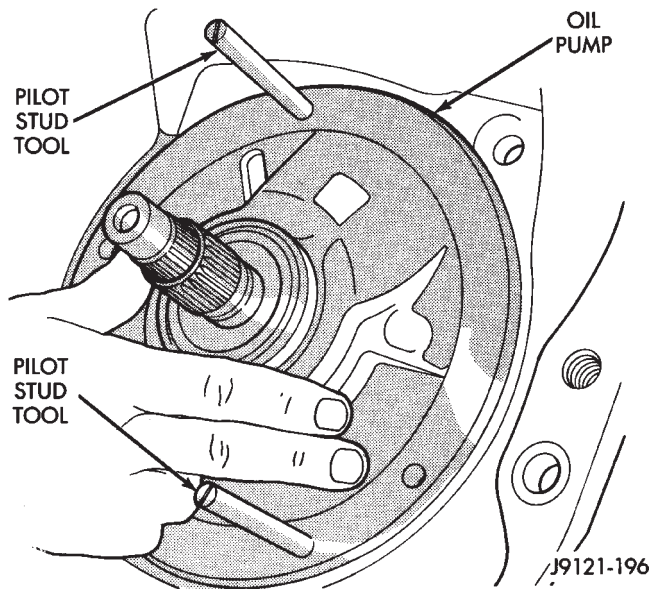

Fig. 158 Installing Oil Pump And Reaction Shaft Support
(10) Lubricate oil pump seals with Mopar Door-Ease, or Ru-Glyde, Door Eze, or ATF Plus.
(11) Install oil pump (Fig. 158). Align and position pump on pilot studs. Slide pump down studs and work it into front clutch hub and case by hand. Then install two or three pump bolts to hold pump in place.
(12) Remove pilot stud tools and install remaining oil pump bolts. Tighten bolts alternately in diagonal pattern to 20 N·m (15 ft-lbs).